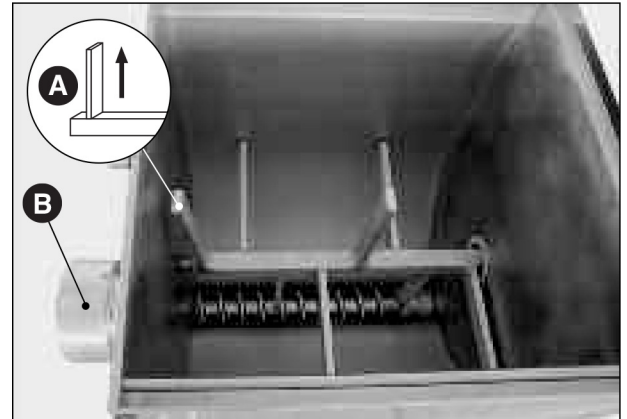

Fig. 29
- Mixer: make sure the external shovel is in the upper vertical position (Fig.29 A) (only this position allows the disassembling of the piece). Disassemble the mixer by unscrewing the external movable support until releasing the mixer; unthread the shaft from its place and at the same time, rotate the external pin towards the top. If you want to assemble the piece follow these instructions vice versa. Line the central point of the shaft with the peg of the moving support (Fig.34 A); thereafter, screw the support, but without blocking it.